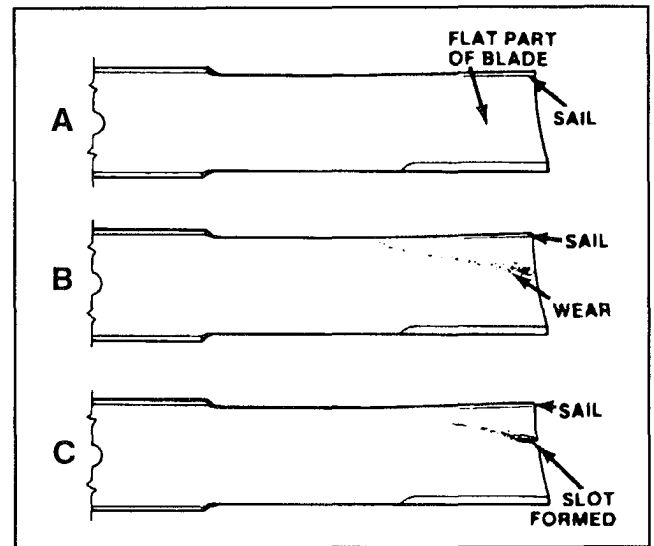

Figure 30
2. Examine cutting ends of the blade carefully, especially where the flat and curved parts of the blade meet (Fig. 30-A). Since sand and abrasive material can wear away the metal that connects the flat and curved parts of the blade, check the blade before using the mower. If wear is noticed (Fig. 30-B), replace the blade.
If blade is allowed to wear, a slot will form between the sail and flat part of the blade (Fig. 30-C). Eventually a piece of the blade may break off and be thrown from under the housing, possibly resulting in serious injury to yourself or bystanders.